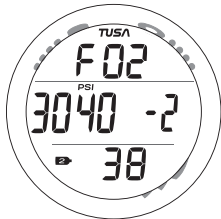

Fig. 93 - GAS/TRT 2
**Gas/TRT 2 Switch Preview**, information includes (Fig. 93) -